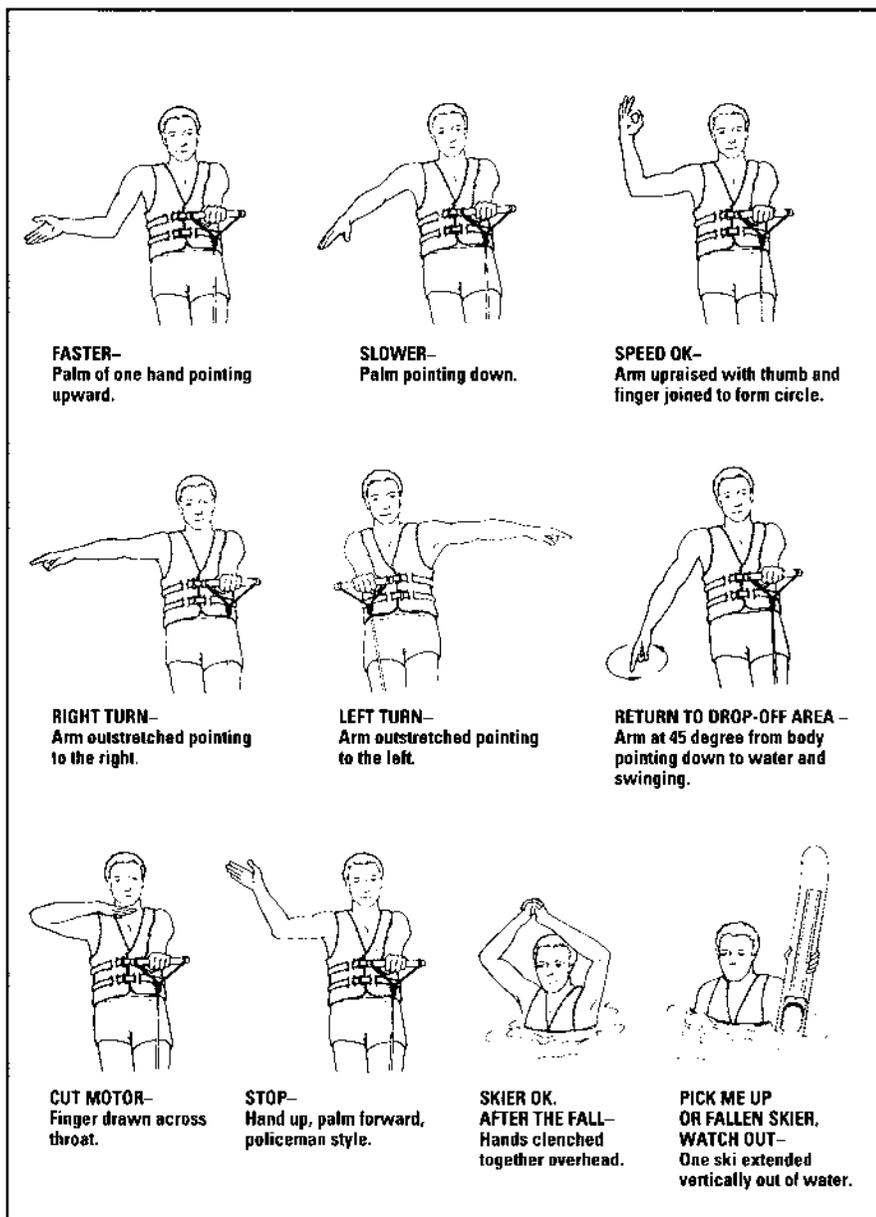

FIGURE 2-14 WATER SPORT SIGNALS
5. Have a second person aboard to observe the person being pulled and inform the driver about that individual's hand signals (Figure 2-14). The driver must give full attention to operating the boat and the waters ahead.